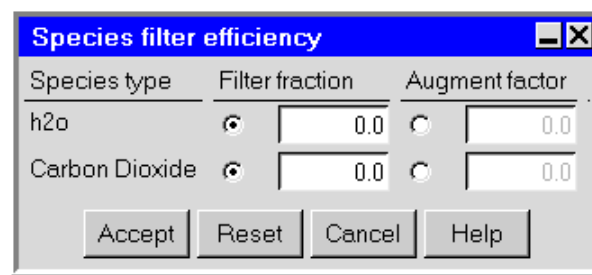

Figure 21.2.8: The Species filter efficiency Panel
4. If your model contains a recirculation opening, you can specify the increase or decrease of species in the recirculation loop. Select the **Species filter** option in the **Openings** panel and click **Edit**. This will open the **Species filter efficiency** panel shown in Figure 21.2.8.